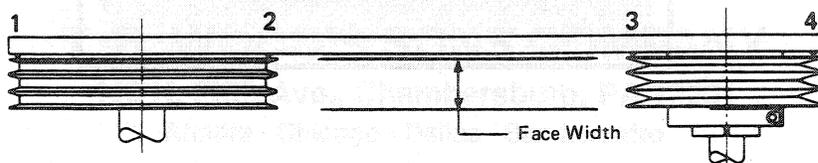

Figure 1
6. Using a straightedge or a piece of string, align the SVS with the driven companion sheave. Place the straightedge against the machined outside surfaces of the **OUT-SIDE** flanges of both sheaves. The straightedge should touch all four surfaces, as shown in Fig. 1. **Note:** The inboard sides of the flanges may not be in line.